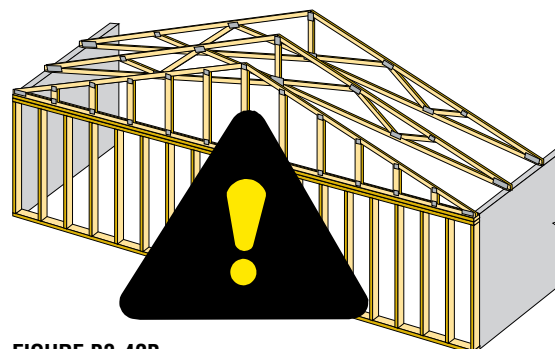

**FIGURE B3-41**
- ✓ The Building Designer may decide to design a balloon-framed end wall, which eliminates the need for a Gable End Frame (see Figure B3-41). If a Gable End Frame is used, it must match the profile of the adjacent Trusses so that proper Bottom Chord Plane Bracing can be installed (see Figure B3-42A), unless special Bracing is designed to support the end wall.